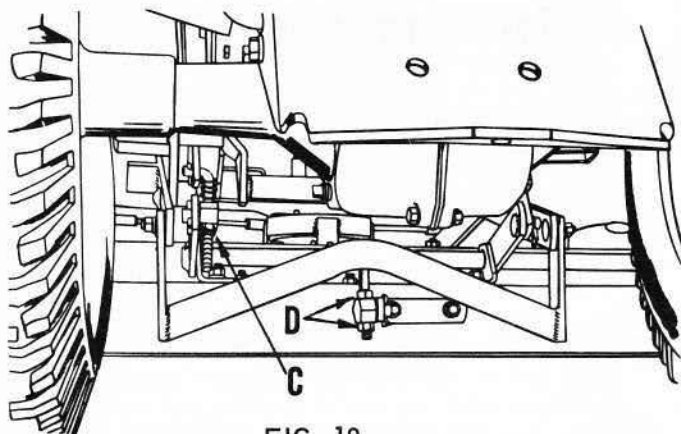

FIG. 18
2. Adjust nut (C), on hanger link at L.H. side to level mower. Shorten this link to raise L.H. side of mower - lengthen this link to lower L.H. side of mower. Refer to Fig. 18.
1. Refer to Fig. 18. The mower should cut approximately $\frac{3}{16}$ " lower at front than at the rear. After mower has been leveled from side to side - adjust for pitch from back to front. Place tractor, with tires properly inflated on a smooth level surface. Raise mower until mower and wheels are in a floating position. Position R.H. mower blade, so that it is in line with the length of blade - rotate blade one-half turn and measure height of tip of rear. The front tip must be approximately $\frac{3}{16}$ inch lower at front than at rear.